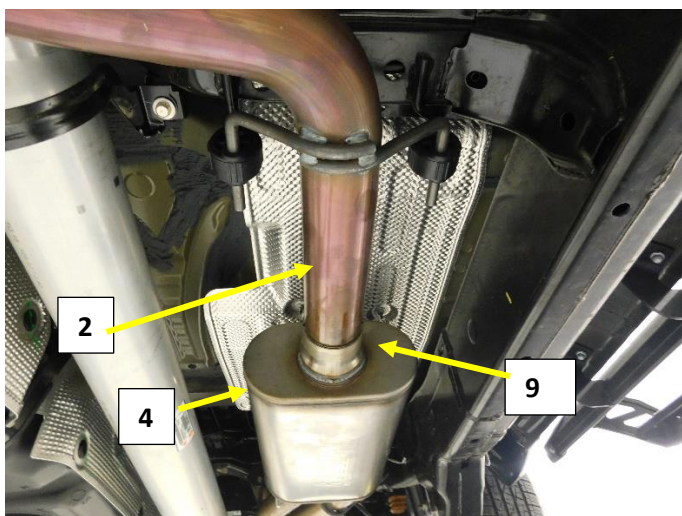

Figure.7
5. Install a 3" band clamp (9) on to the inlet of the 72688-Z muffler (4). **Fig. 7**
6. Install the muffler (4) on to the muffler inlet pipe (2), align the muffler with the logo down and muffler case level. Tighten the clamp. **Fig. 7** **Note: Use extension pipe 26984M (3) between Muffler and inlet pipe for 145.1" wheel base**